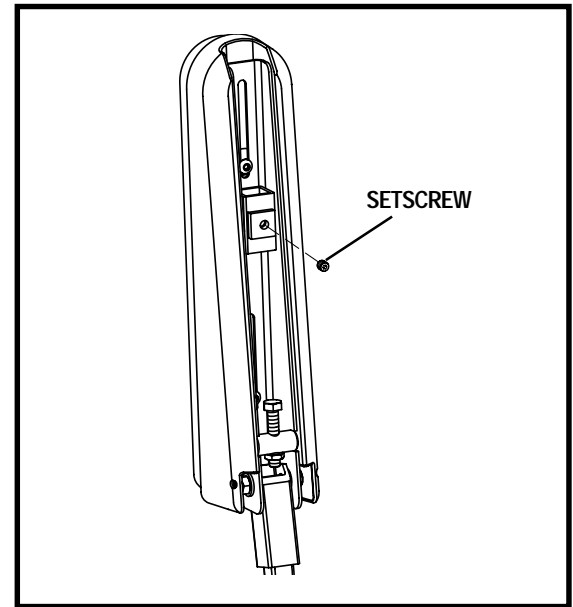

Figure 16. Controller Installation
4. Flip up the armrest and loosen the setscrew. See figure 16.